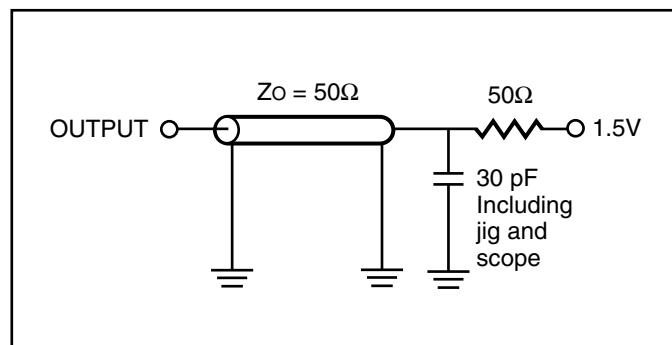

Figure 1.
Output Load	See Figures 1 and 2
- Test conditions and output loading conditions are specified in the AC Test Conditions and AC Test Loads (Figure 1).
1. Test conditions and output loading conditions are specified in the AC Test Conditions and AC Test Loads (Figure 1).